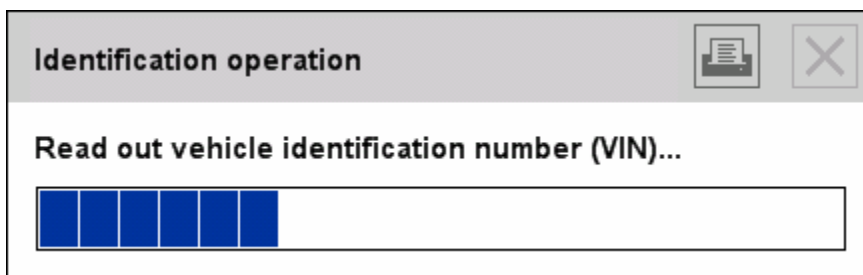

Fig. 3.63 "Identification operation" progress bar
- ◇ Click the "Set up connection" button (Fig. 3.62). Wait until the connection is established (Fig. 3.63).